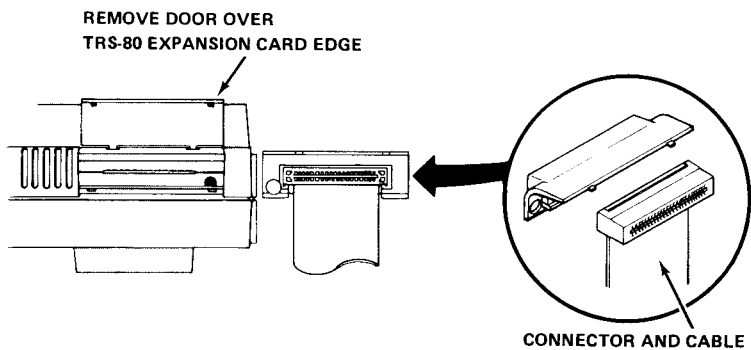

Figure 5. Connection to the TRS-80.
- 1. Position the TRS-80 as illustrated (Figure 5, rear view). Lift the door covering the Expansion Card-Edge, and slide it slightly to the right, then lift it up and away from the TRS-80 (be careful not to break the little plastic tabs).
- 3. Attach the curved TRS-80 connector hood to the keyboard case; the ribbon cable should feed out from the bottom of the hood (Figure 5).